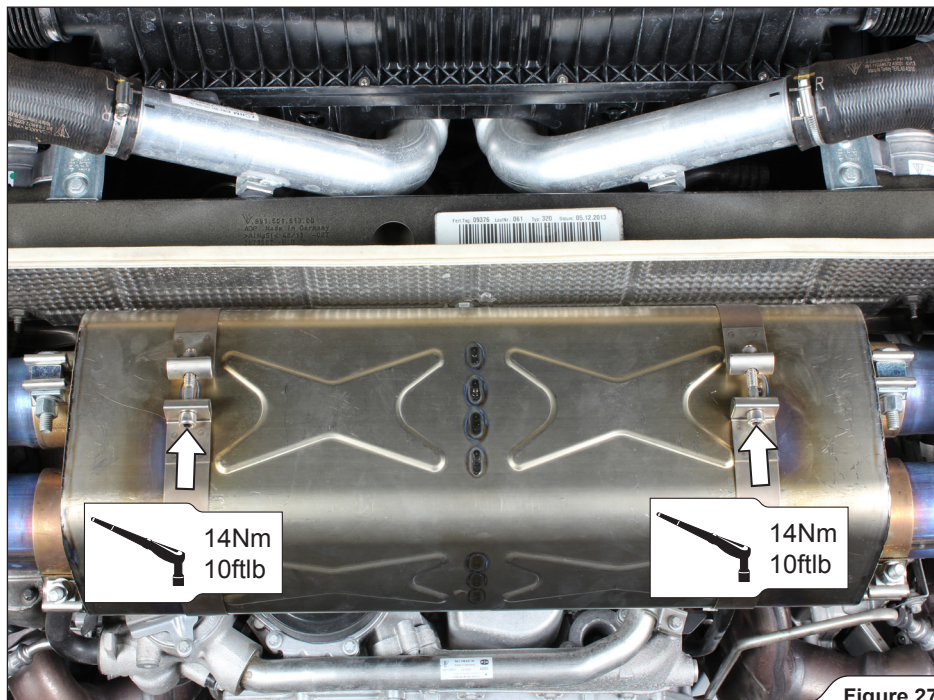

Figure 27
4. Tighten the muffler clamps to the specified torque (**Figure 27**).